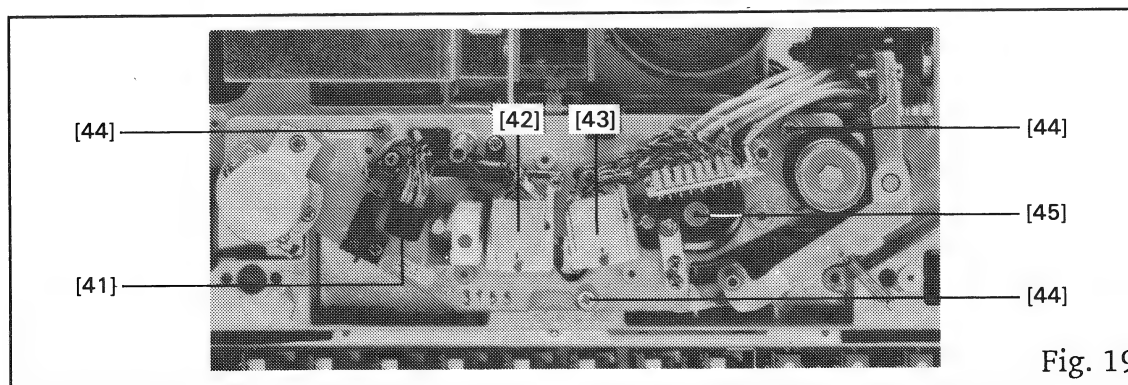

Fig. 19
- Unfasten the 3 screws [44] (Fig. 19) of the headblock.